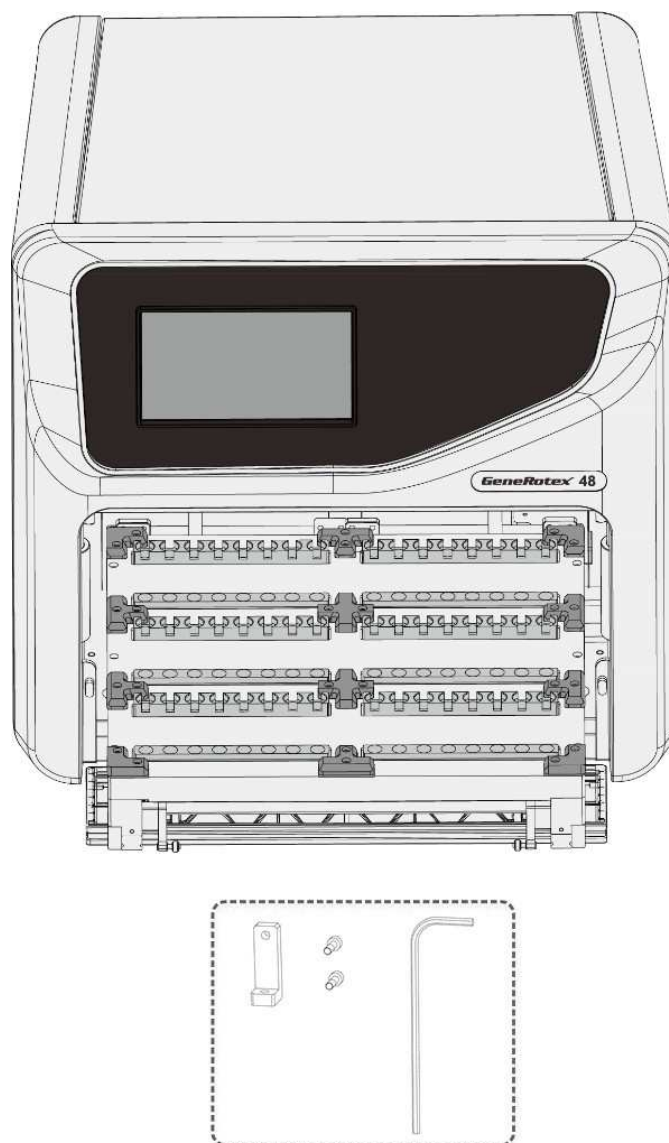

Figure 2-2. BasePurifier™XL - Removal of Transport Lock
- 1st Step:** Please open the experiment cabin. There are two transport locks fixed under the movable loading platform, as shown in Figure 2-2.
- 2nd Step:** Remove two screws on each transport lock with a screwdriver and remove the transport lock, as shown in Figure 2-2.